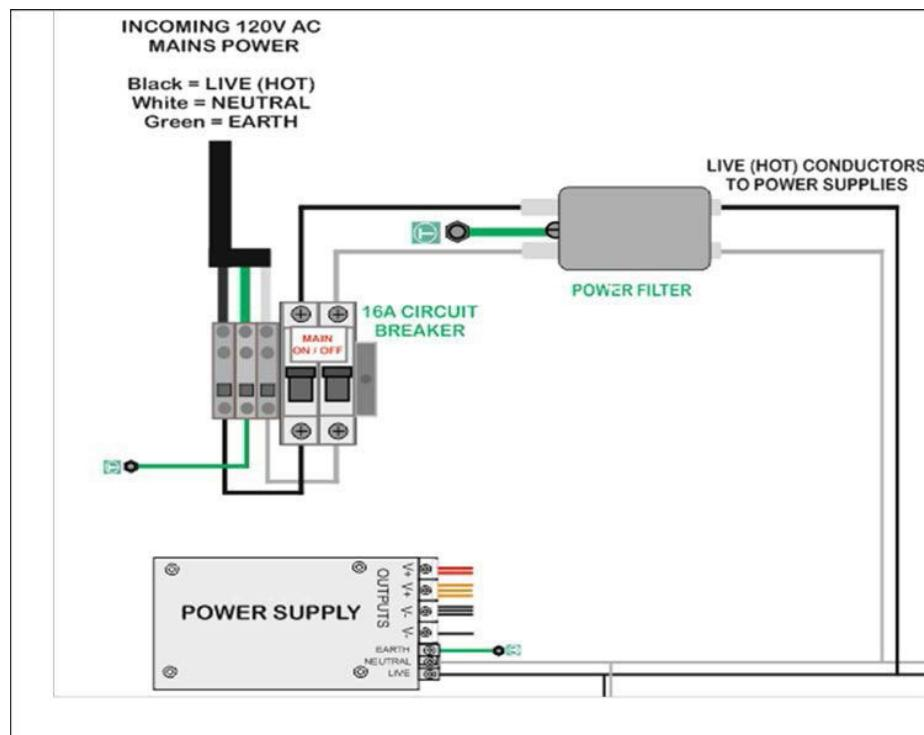

Figure 3: Incoming AC Mains Power
5. Power then routes through filters to the power supplies which provide power to the modules and other components. Refer to **Figure 3**.